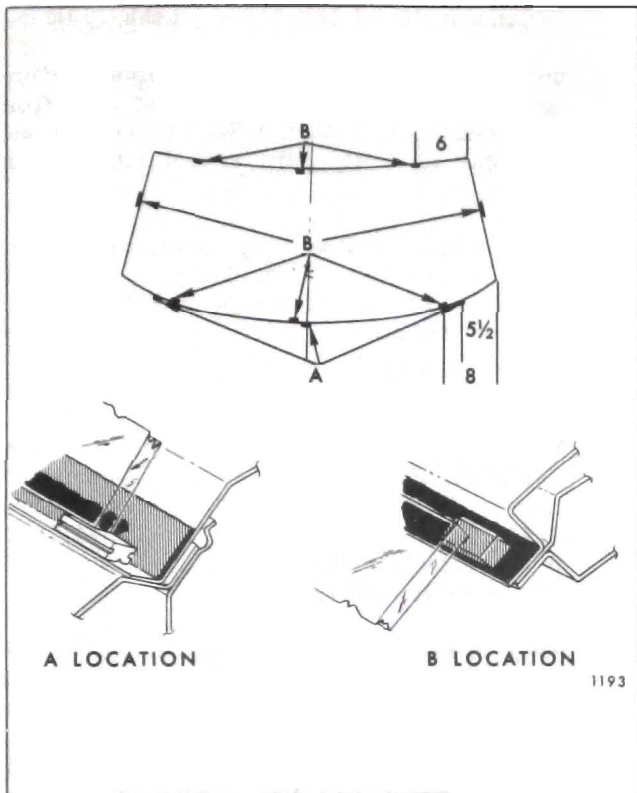

Fig. 4-5—Glass Spacers
4. Using black weatherstrip adhesive, cement three rubber spaces to lower windshield opening at location "A", Figure 4-5.